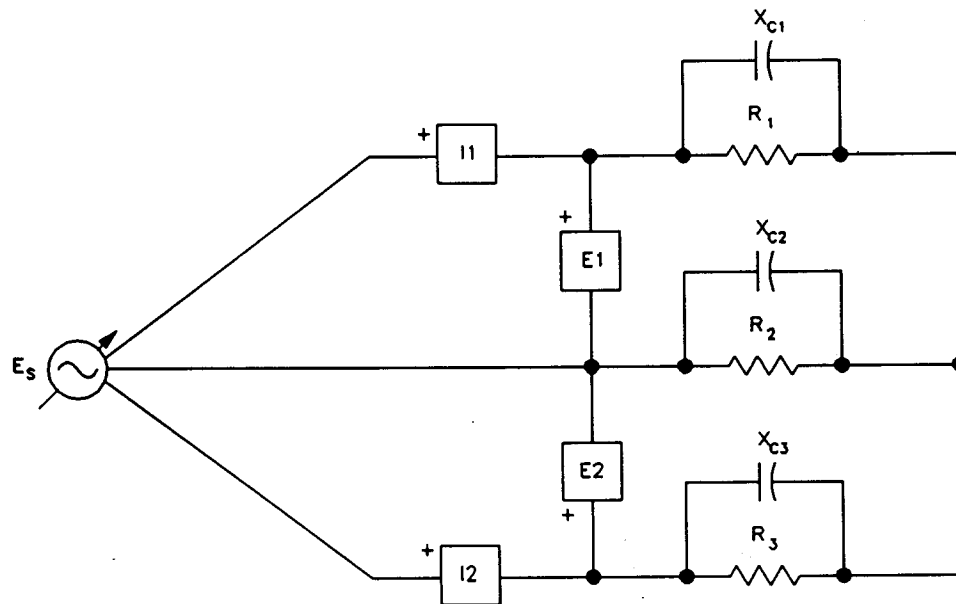

Figure 6-14. Adding Capacitance to The Wye-Connected Load.
16. Add capacitance in parallel with the wye-connected load as shown in Figure 6-14, and set X_{C1} , X_{C2} , and X_{C3} to the same values as R_1 , R_2 , and R_3 . Select setup configuration file *ES16-8.cfg*. Turn on the power and readjust E_s if necessary to obtain the value used previously.